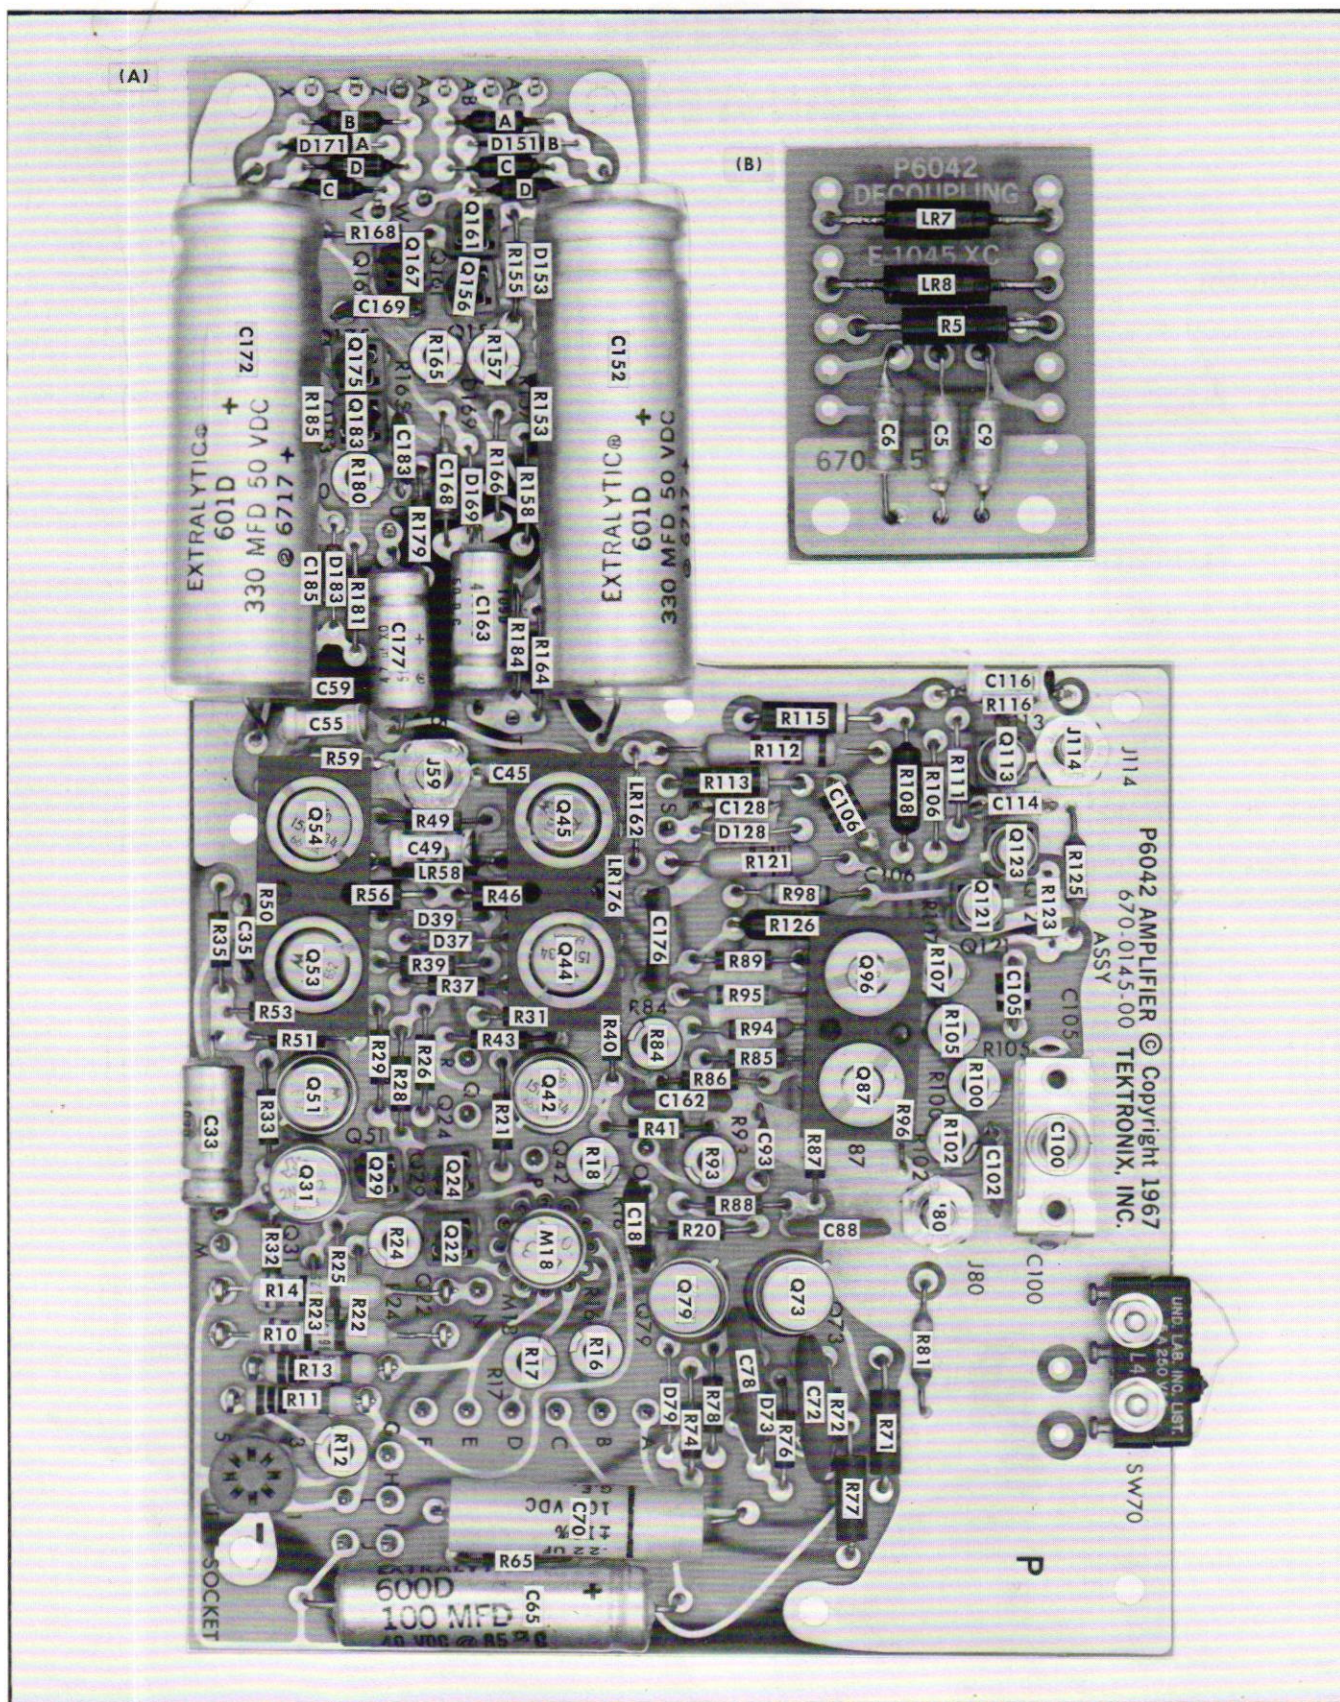

Fig. 4-2. Locations of components mounted on circuit boards. (A) Amplifier circuit board (B) Decoupling circuit board.
**Circuit Board Illustrations.** Many of the electrical components in the P6042 amplifier are mounted on circuit boards. To aid in locating components and identifying connections to the circuit boards, Fig. 4-2 shows the physical locations of all components mounted on the boards and the color code of the connecting wires.